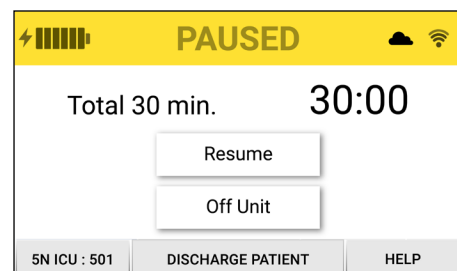

Figure 6. Paused screen
2. A Paused screen will display with a yellow status bar and remaining pause time displayed on the right side of the screen. (Fig. 6)
3. Pause time may be extended if necessary when the patient is going off-unit by pressing "Off Unit" to display additional pause times. (Fig. 6)